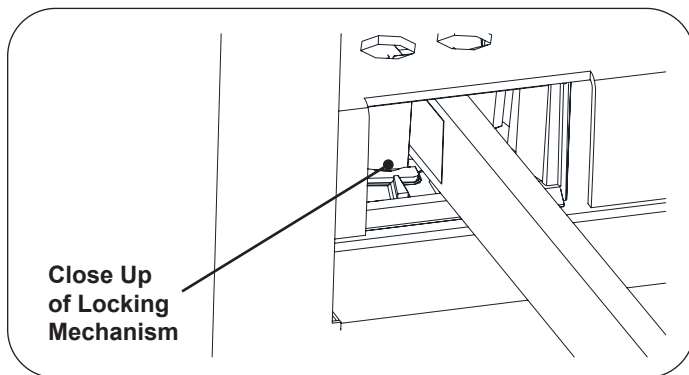

Figure 32. Stirrup Locking Mechanism
2. When the desired position is achieved, lower the stirrup to engage the lateral locking mechanism (Figure 32 and Figure 33).